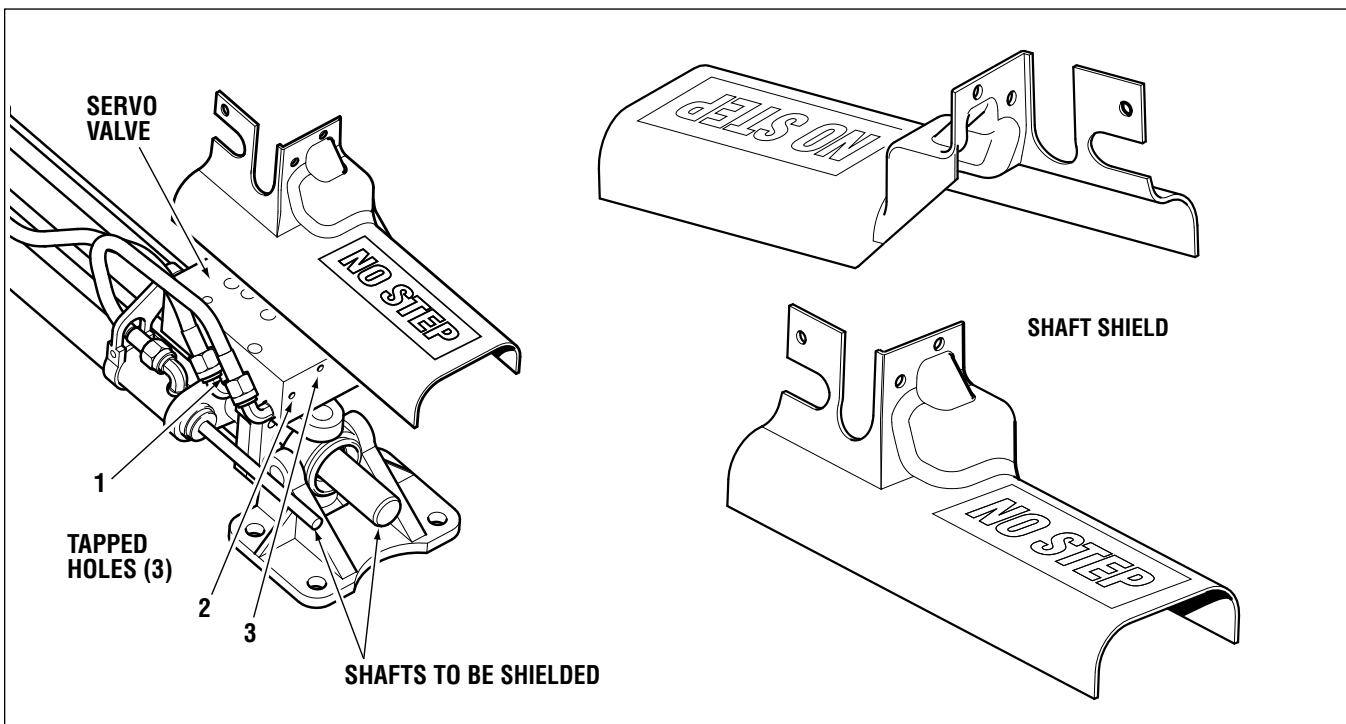

Figure 13.
- 1 Locate the three pre-tapped holes on the Power Steering Servo valve. Refer to Figure 13.
- 2 Guide the tabs of the shaft shield around the hoses on the front of the servo valve (refer to Figure 13) and line up with the pre-tapped holes. Install screws through the shaft shield into the servo valve. Be careful not to break shaft shield tabs.